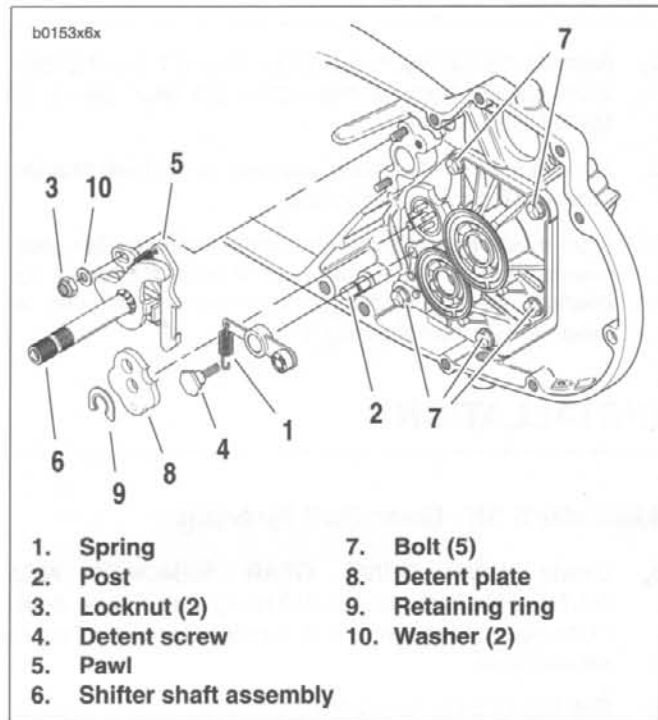
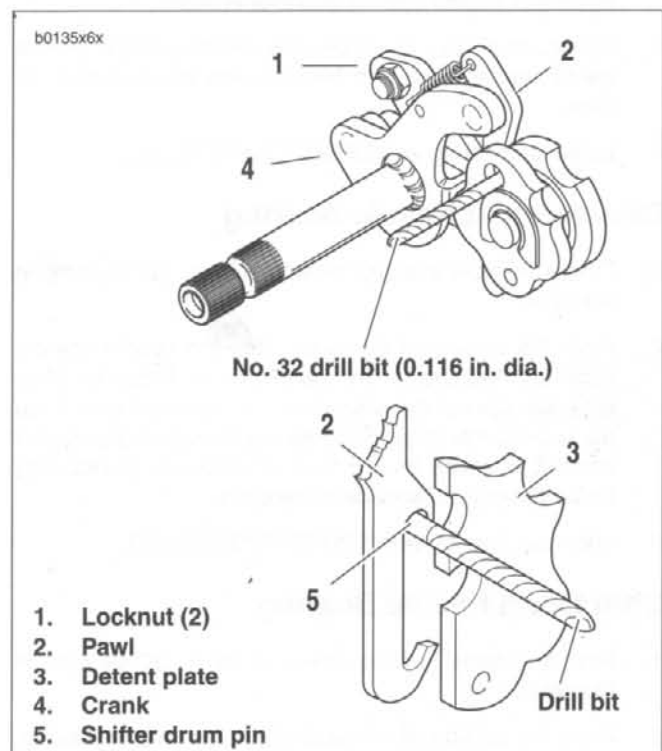

Figure 6-60. Installing Access Door
Figure 6-61. Shifter Shaft Assembly Alignment
2. See Figure 6-60. Install access door.
- a. Apply a few drops of **LOCTITE THREADLOCKER 243** (blue) to all five access door mounting bolts (7).
3. Lift pawl (5) over drum pins and place shifter shaft assembly (6) on studs at transmission case. Loosely install a washer (10) and locknut (3) on each stud.
4. Attach loop of spring (1) over and into groove in post (2).
- a. Place detent plate (8) over drum pins.
- c. Install **new** retaining ring (9) using **SHIFT DRUM RETAINING RING INSTALLER** (Part No. HD-39151).
6. See Figure 6-61. Align shifter shaft.
- b. Place a No. 32 drill bit (0.116 in. dia.) through hole in detent plate (3), and between pawl (2) and drive pin at end of shifter drum shaft.
- c. Push down top of crank (4) to remove all clearance between pawl and drill bit; this will correctly align pawl to shift drum pins (do not push down with too great a force, as this might cause the shifter drum to rotate).
- d. With bit in place, tighten shifter shaft assembly bottom locknut (1) first to 90-110 **in-lbs** (10.2-12.4 Nm). Then, tighten shifter shaft assembly top locknut (1) to the same torque.